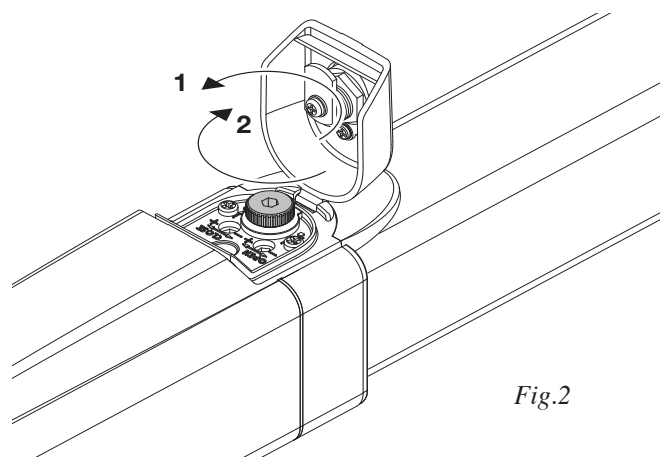

Fig.2
- Turn the knob anticlockwise to disengage the automation. (Fig.2)